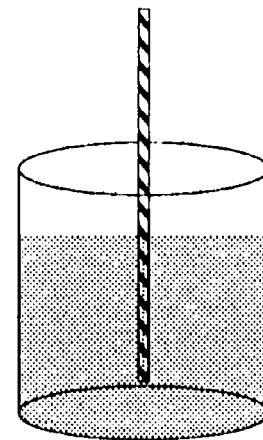

Figure 2. Place straw 1 in the jar.
2. Place straw 1 into the jar and secure it. Make sure that the straw is positioned vertically in the center of the jar and not touching the bottom (see Figure 2).